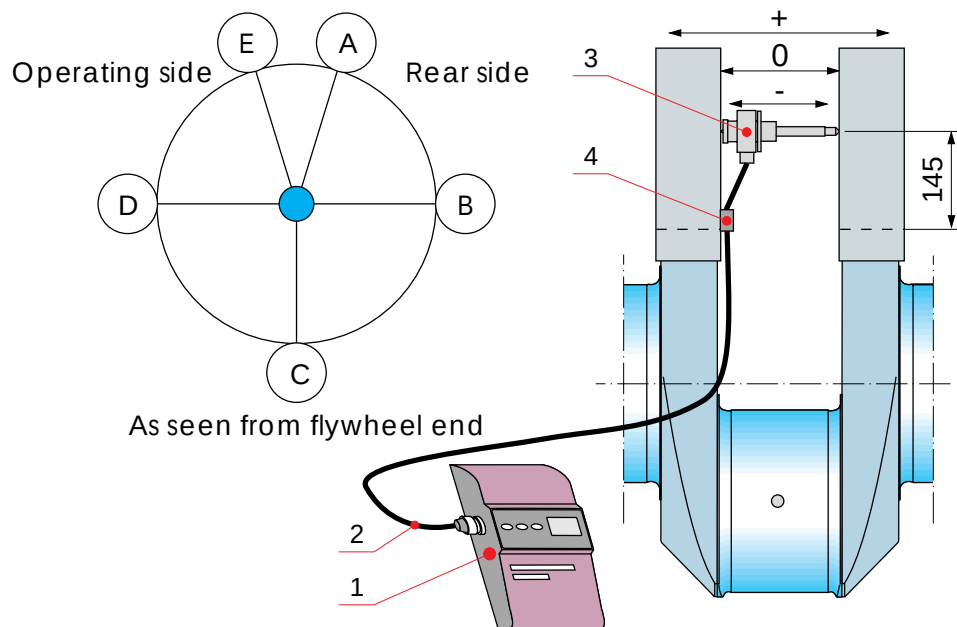

Fig 11-1
**5 Turn crank of the first cylinder** near BDC (bottom dead centre) and fit the transducer to the centre marks (marked with yellow paint mark) between two crank webs. The distance between centre mark and contact surface of the counter weight and crank web is 145 mm, see Fig 11-1.
The distance between the transducer and the connecting rod should be as small as possible. Fix the cable on the crank web by using suitable bandage or magnetic holder (4), see Fig 11-1.
**7 Turning the crank and read deflections** in the marked positions according to Fig 11-1. Starting point for clockwise rotating engine is measuring point "A" and counter-clockwise rotating engine measuring point "E". B is rear side, C is TDC (top dead centre), D is operating side, A and E are BDC (bottom dead centre). Record readings in the Measuring Record: "Crankshaft alignment".